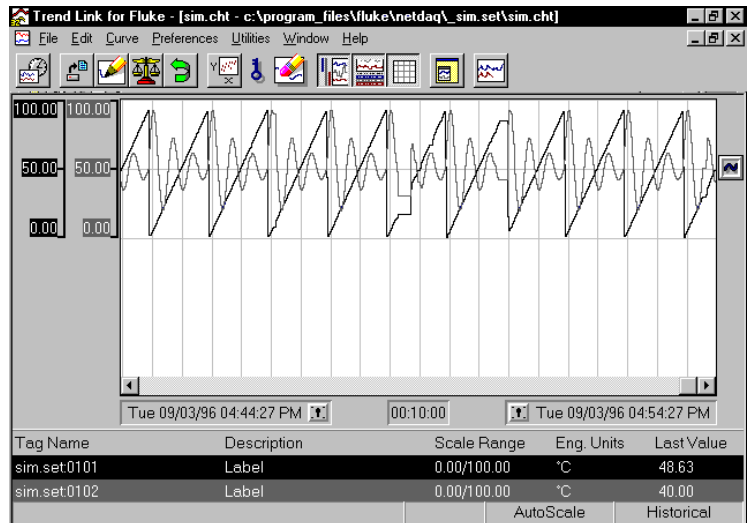

Figure 16.
3. Note the two traces are now overlaid on the chart and matched in time as shown in Figure 16.